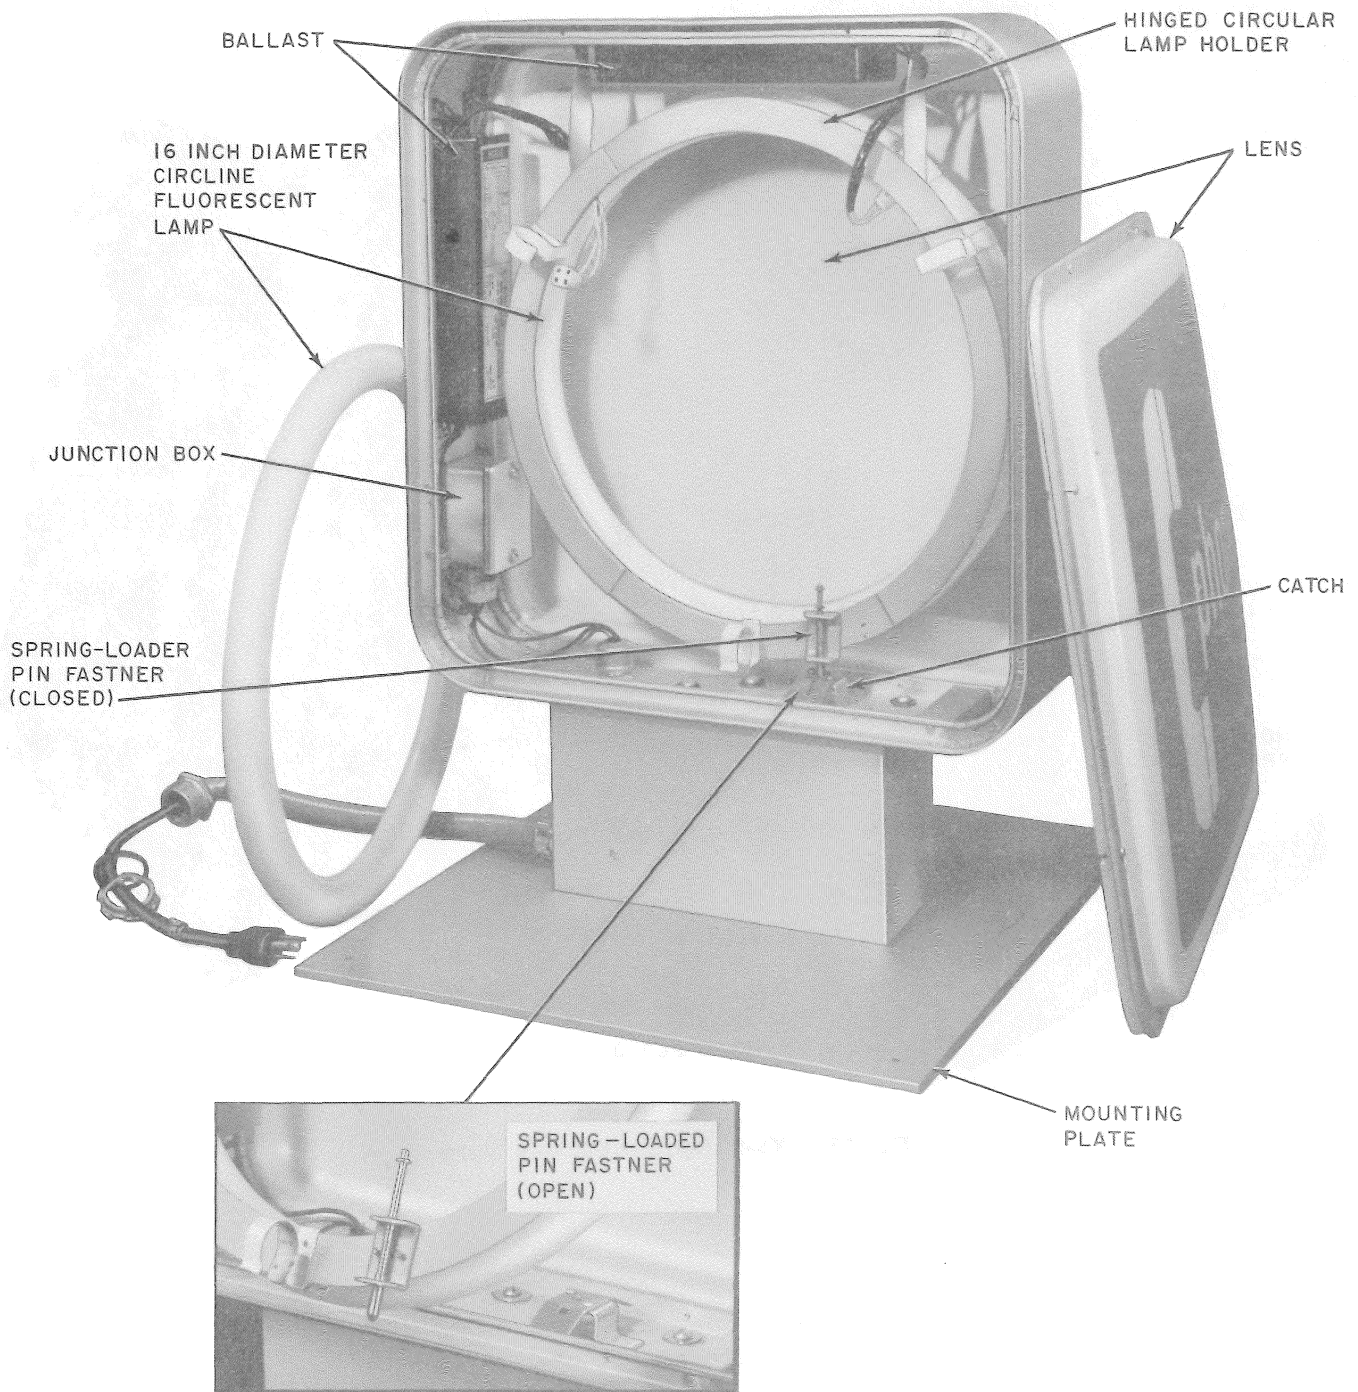

Fig. 22—KS-20135, List 1 Indoor-Outdoor Sign
- KS-20135, List 1 is a two lens, outdoor-indoor, plug-connected sign with mounting for attaching to the roof of telephone booths (Fig. 22).
5.04 The KS-20135, List 1, 2, 3, and 4 signs are 19 inches square (rounded corners) with a 4-5/8 inch wide extruded aluminum frame. The frame provides mountings for the lens, two ballasts, a waterproof junction box, a waterproof strain relief cord connector, and a hinged circular lamp holder. The lamp holder has a spring loaded pin fastened at the bottom which provides easy removal and replacement of both bulbs from either side of the sign (Fig. 22) (List 4 excepted).